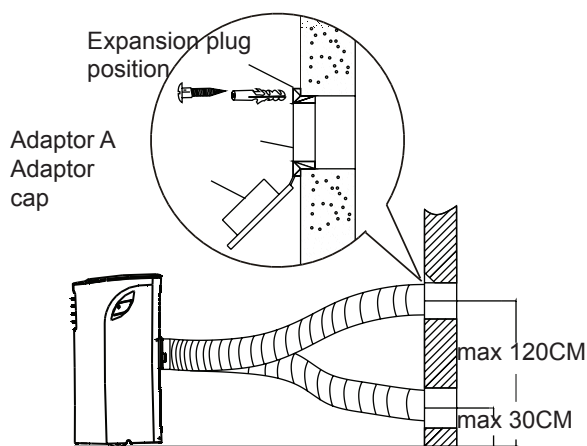

Fig.19
1. Prepare a hole in the wall. Install the wall Exhaust adaptor A onto the wall (outside) by using the 4 expansion plugs and wooden screws, be sure to secure properly. (See Fig.19)